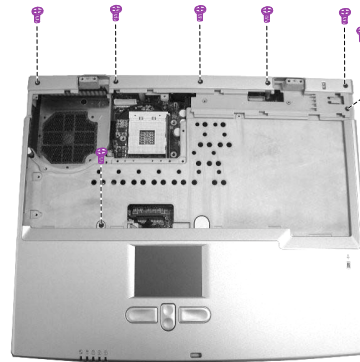

Figure 2-22 Remove the speaker assembly
3. Remove seven screws fastening the base unit cover . (Figure 2-22)